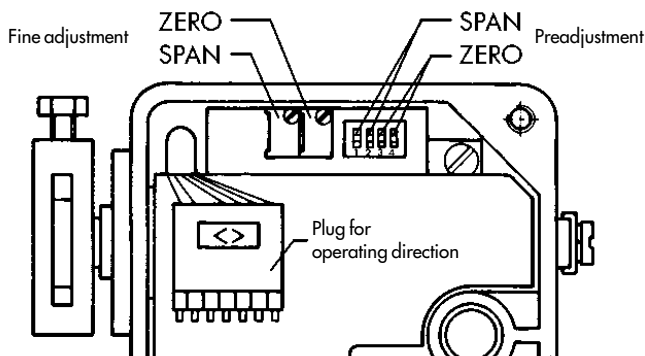

Fig. 7 · Adjusters
4.2 Adjustment of zero point and span (Fig. 7)